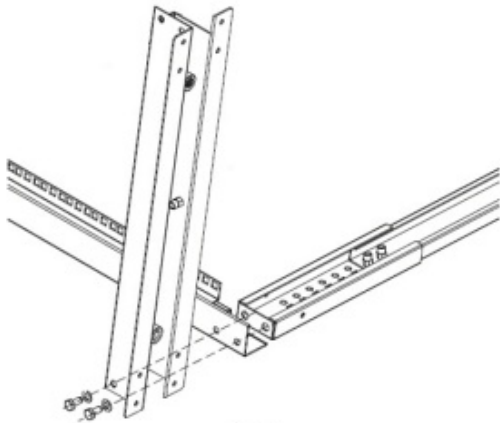

Figure 4
4. Insert two M8 Bolts through two M8 Washers and into the holes in the Base Bracket, Vertical Rails, and the Center Section Assembly. Repeat for the other side of the Base Bracket. (Figure 4)